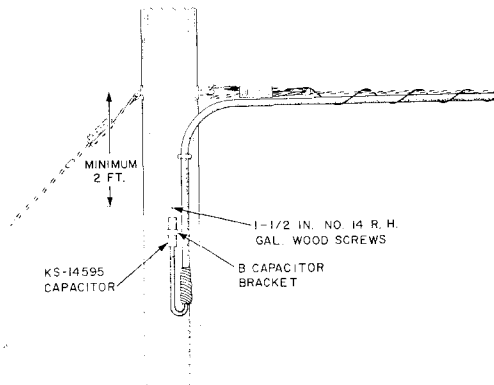

Fig. 7—Pole-Mounted Capacitor
- 4.10 Secure the KS-14595-type capacitor to the pole with a B capacitor bracket. This capacitor and bracket are intended to be mounted vertically on a pole with the capacitor leads at the bottom of the bracket as shown in Fig. 7. This arrangement permits the leads to be kept short. Holes are provided in the bracket for two 1-1/2 inch No. 14 RH galvanized wood screws.